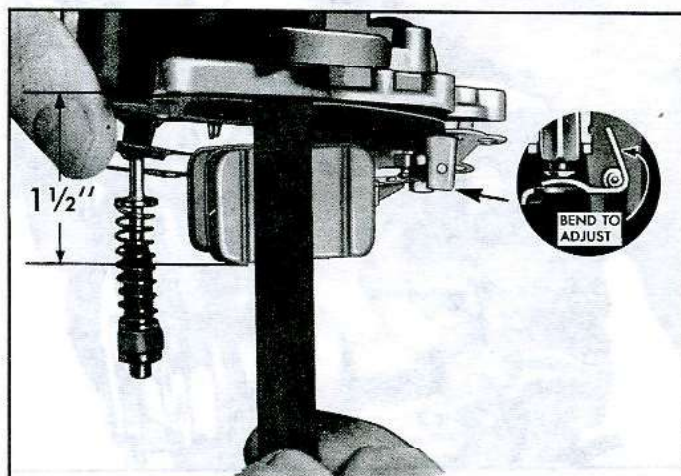

Fig. 12—Measuring Float Drop
- Hold bowl cover in an upright position and measure the distance from the gasket to the bottom of the float (fig. 12). This dimension should be  $1-1/2$ ". Bend the tang at the end of the float